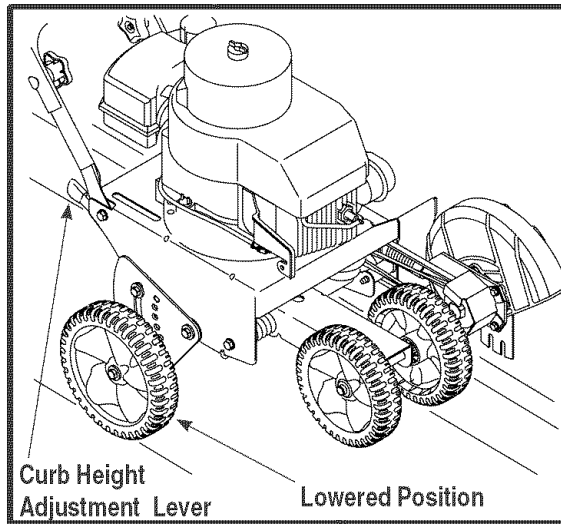

Figure 6
3. Release the curb height adjustment lever to lock the wheel in position. See Figure 6.